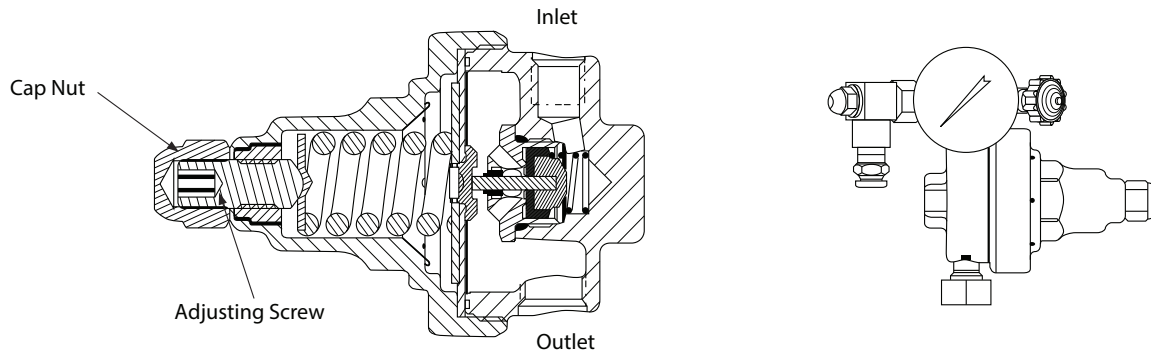

Figure 11: Delivery Regulator
1. Loosen the 3/4" hex cap nut from the adjusting screw of the delivery regulator. Refer to Figure 11.